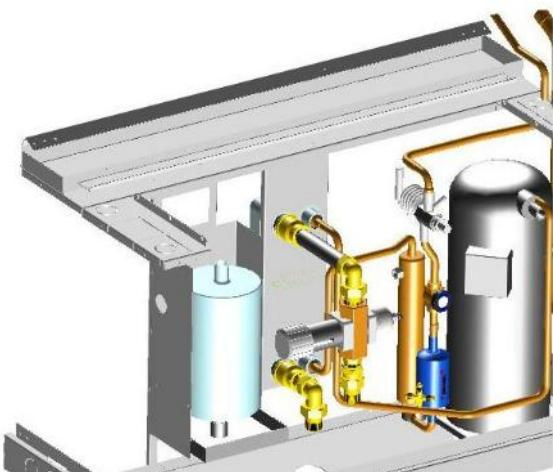

Fig.1
- **Compressors:** Only primary brand scroll compressors are installed in the INNOV@ units (fig.1). The scroll compressor represents the best solution in terms of efficiency and reliability for CCU units. The internal compression ratio is very close to the typical operating condition of CCU applications, bearing the maximum in terms of COP. The perfectly balanced pressures during start-up phases are a distinct advantage for the electrical motor and its reliability, most of all in this field where start-ups are frequent.